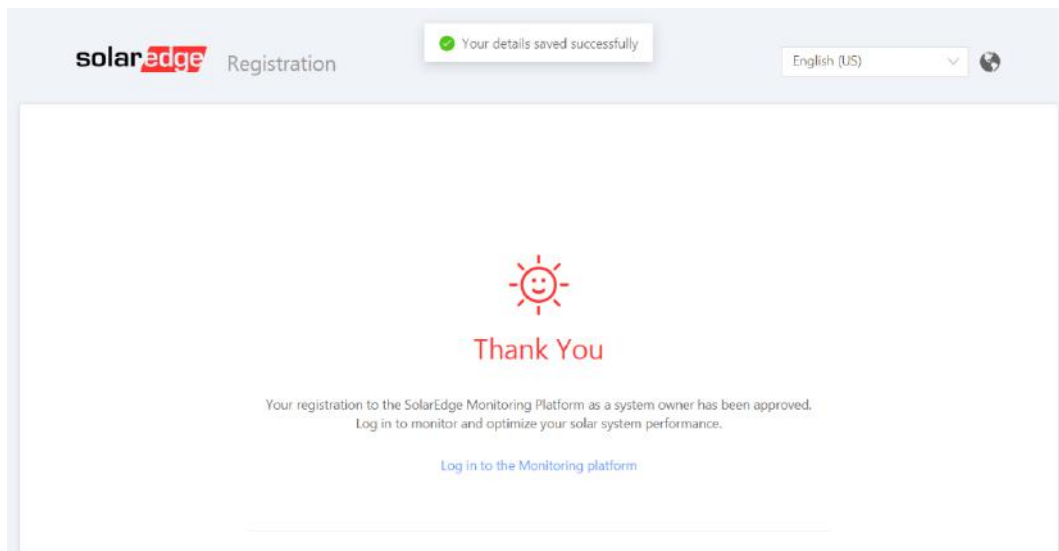
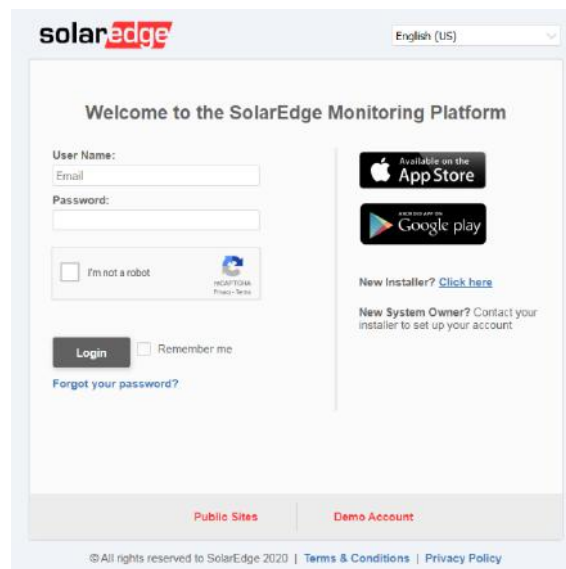

Figure 2: Thank You Page
Figure 3: Login Window
4. When the "Thank You" page appears (Figure 2), click **Log in to the Monitoring platform**. The Login window is displayed (Figure 3).